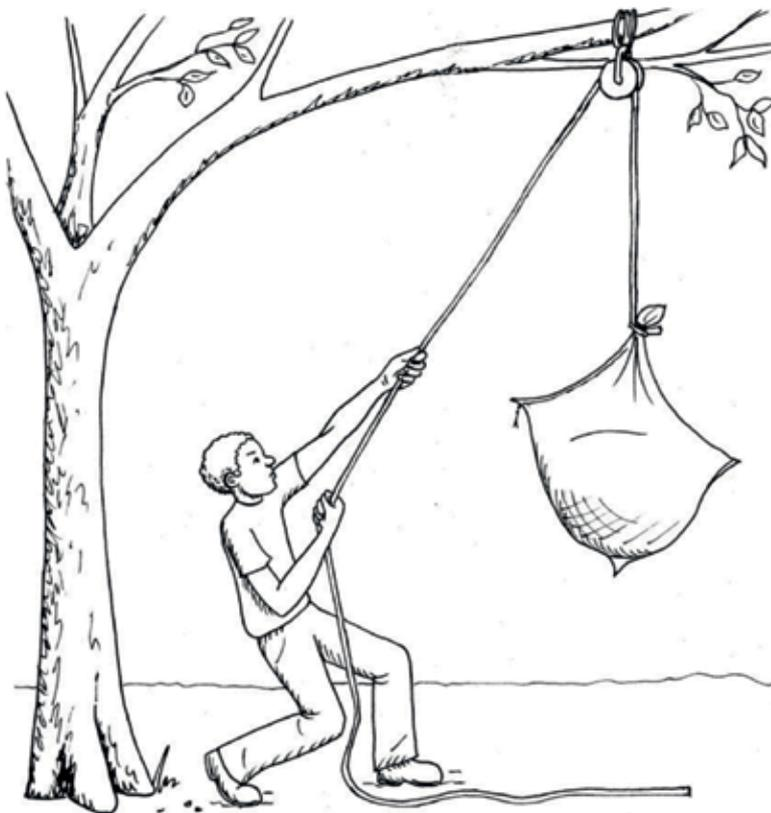

Figure 5: The man uses a pulley to lift the sack
The system that the man in Figure 5 uses is called a **single wheel fixed pulley** system. Its purpose is to change the direction of pull, but it does not give a mechanical advantage.
3. Make a rough sketch in the space below to show where the man in Figure 5 can put a cam cleat to make it easier to lift the sack up to the branch.